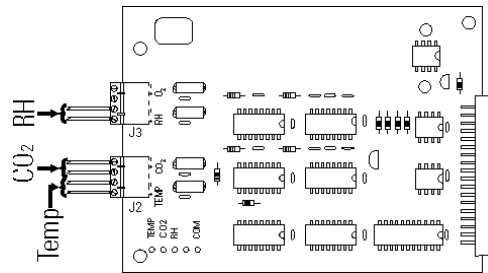

Figure 9-4. Conductors on Analog Output Board
4. Each system monitored (Temp, CO₂, RH) requires two conductors (Refer to Figure 9-4).
6. Strip the ends of each conductor and wire it to the appropriate terminals of connectors J2 and/or J3 on the analog board. Refer to Figure 9-4.